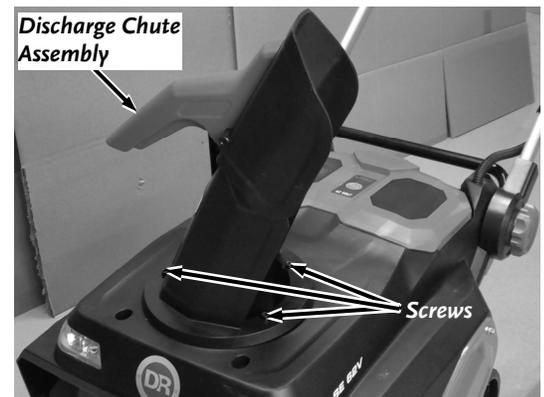

Figure 6
1. Position the Flange of the Discharge Chute onto the Power Unit and align the holes in the Chute with the holes in the Power Unit (**Figure 6**).
1. Open the Battery Cover and insert the Battery into one of the openings with the Battery Contacts facing the Contacts in the Housing (**Figure 6**).